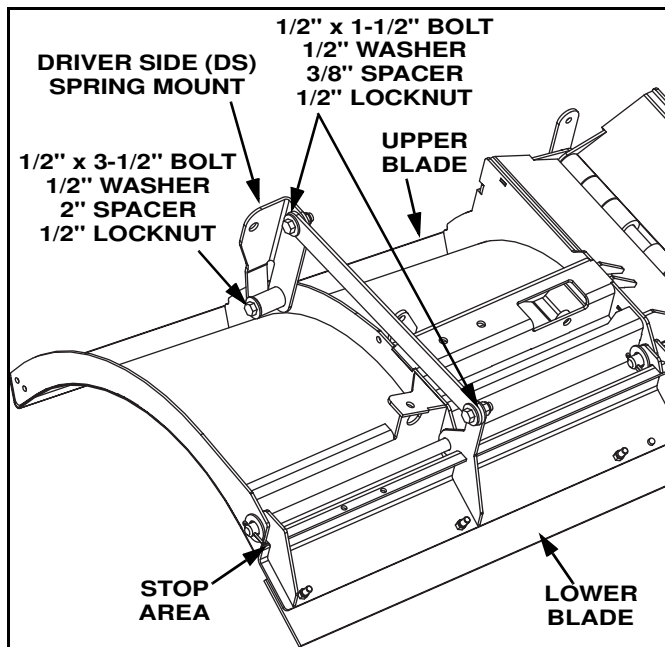
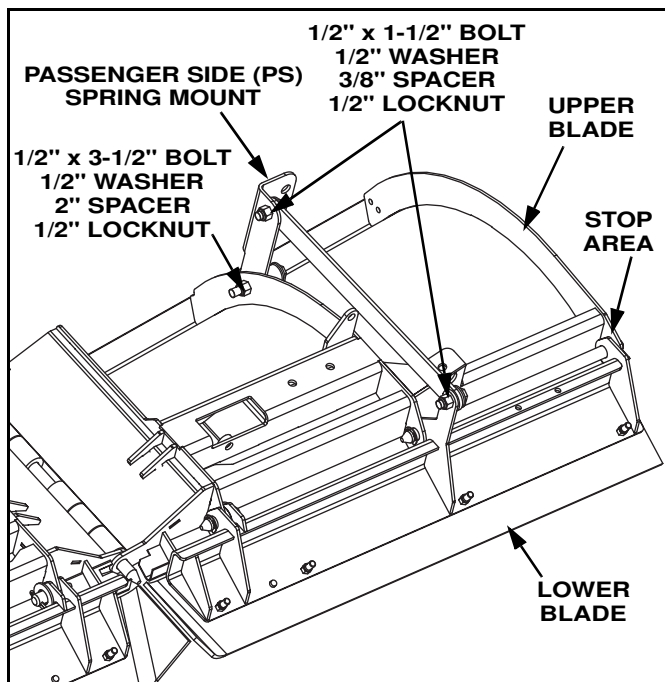

Figure 1-4 (Drivers Side)
Figure 1-5 (Passengers Side)
2. Place blocking under the upper blade so that the lower blade swings forward and the stop areas on the upper and lower blade touch. (See Figure 1-4) and Figure 1-5)
4. Take out the Drivers Side Spring Mount. Place a 2" spacer in the tube on the mount. (See Figure 1-4)
5. Bolt the Drivers Side Spring Mount to the inner rib on the drivers side wing using a 1/2" washer on the spacer side, 1/2" x 3 1/2" bolt, and 1/2" lock nut. (See Figure 1-4)
6. Take a Spring Mount Plate and two 3/8" spacers and bolt it to the Spring Mount and the tab on the lower blade. Use two 1/2" washers on the spacer side, two 1/2" X 1 1/2" bolts, and two 1/2" lock nuts. (See Figure 1-4)
7. Install the Passengers Side Spring Mount on the inner rib of the passengers side wing, and repeat steps 4-6 on the passenger side of the blade. (See Figure 1-5)